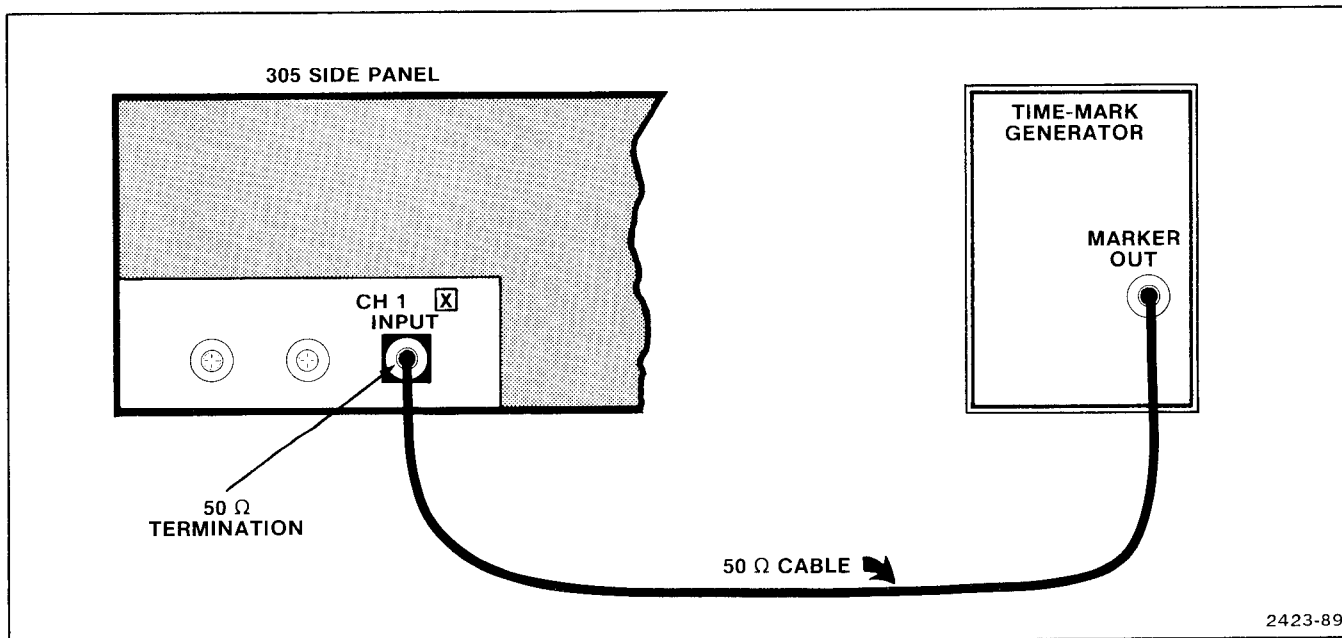

Fig. 6-7. Horizontal test setup.
a. Connect a time-mark generator as shown in Fig. 6-7 and set it for 1 ms time markers.